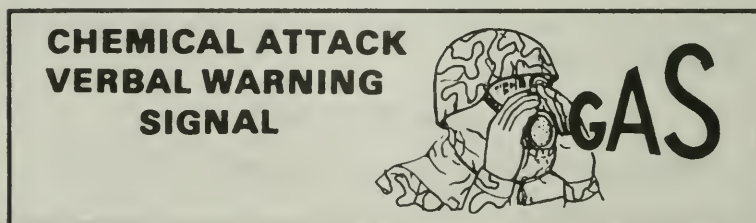

Figure 275. Chemical attack verbal warning.
1. Recognize chemical, biological (CB) hazard.
- a. Yell "Gas" (Figure 275).